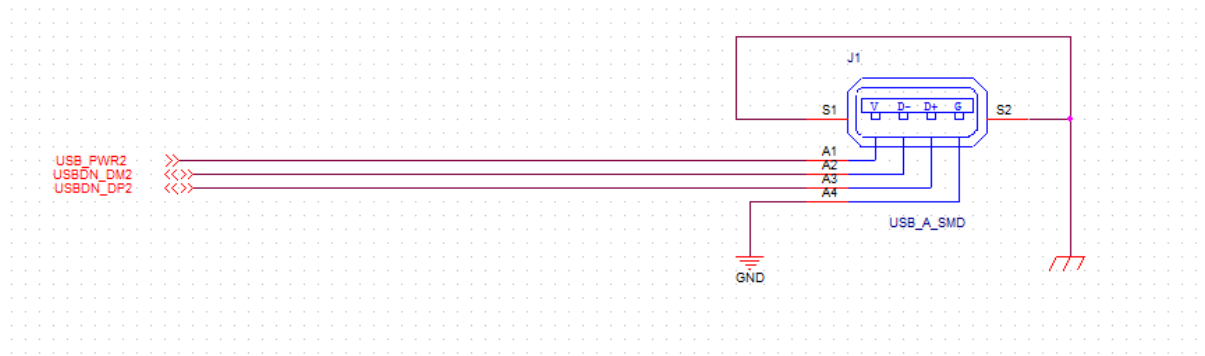

Figure 5: USB Host example
- The USB HOST channels on J9 (USBDN_DP2, USBDN_DM2, USBDN_DP3, USBDN_DM3) has already the power protections and management on the the NOVASOM P board , and can be driven using a schematic like the one in the following Figure 5 (USBDN_DP2, USBDN_DM2 is shown, but the same can be used for USBDN_DP3, USBDN_DM3 with the USB_PWR3 signal).